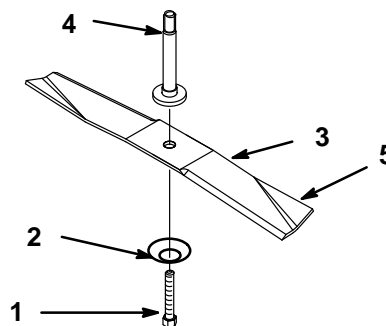

Figure 35
3. Once the indicators are in the same position on both sides, swing the tension release arm into the pulley box by moving it into the position shown in Fig. 35.